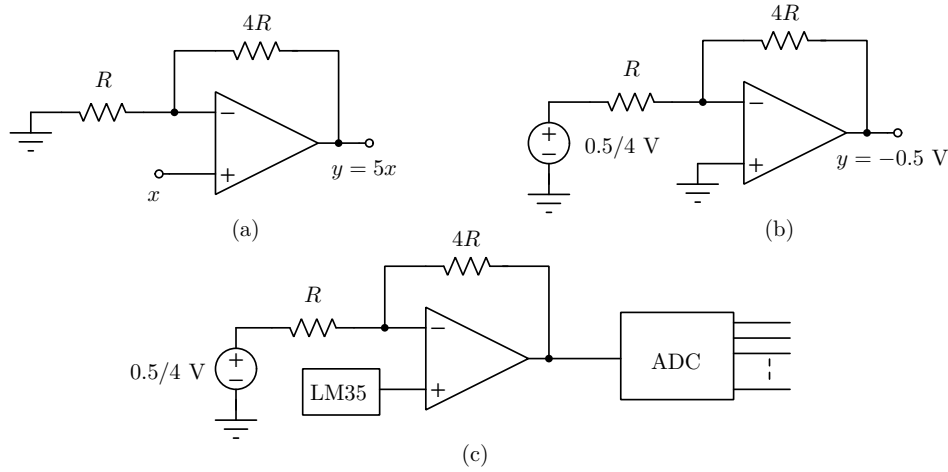

Figure 2: (a) A non-inverting amplifier with a gain 5, (b) a DC offset introducer, and (c) the circuit with the required transfer characteristics.
5. A non-inverting amplifier with the component values shown in Fig. 2(a) can be used to implement  $y = 5x$ . Any resistance with a practically available value can be used for  $R$ .
6. The constant value  $-0.5 \text{ V}$  can be implemented by the same circuit and is shown in Fig. 2(b). Here we have assumed the availability of a constant voltage  $\frac{0.5}{4} \text{ V}$ . In reality, one should realize this with the given battery voltage.
7. Final circuit with the transfer characteristics  $y = 5x - 0.5$  is shown in Fig. 2(c).